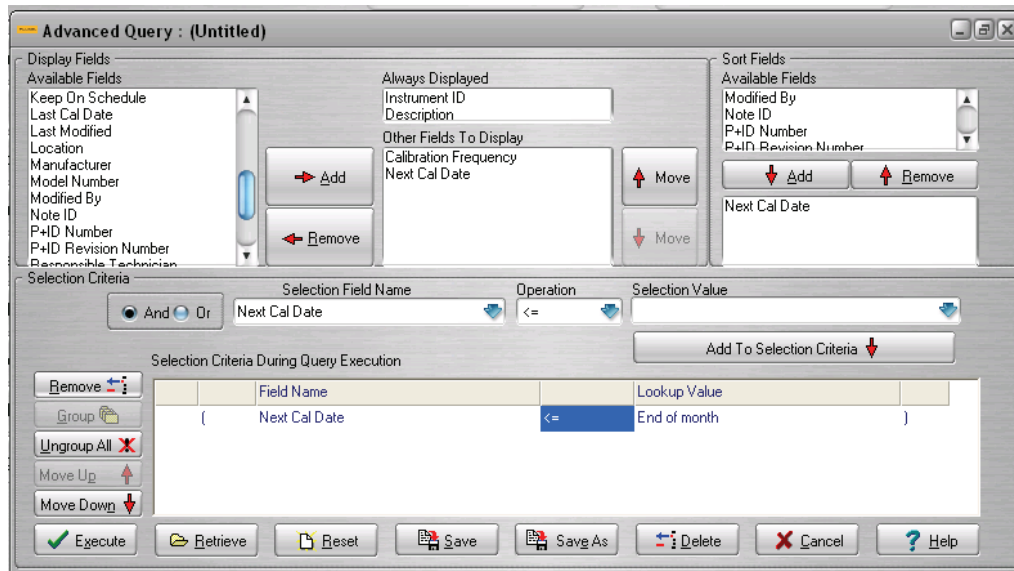

Figure 21.6
4. Finally, click the Add To Selection Criteria button to move it into the *Selection Criteria During Query Execution* box. Your screen will look like the one shown in Figure 21.6 below.